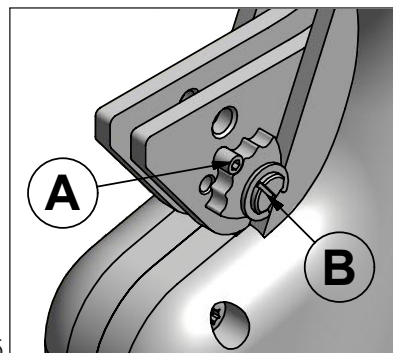

Figure 15
Setting the crimp height (Figure 15)
Adjustment of crimp height to be done only when the tool is completely opened (i.e. in the lower final position fig. 15) and the battery is unplugged. Never actuate the tool with unsecured adjusting disc (e.g. missing screw (A), fig.15).